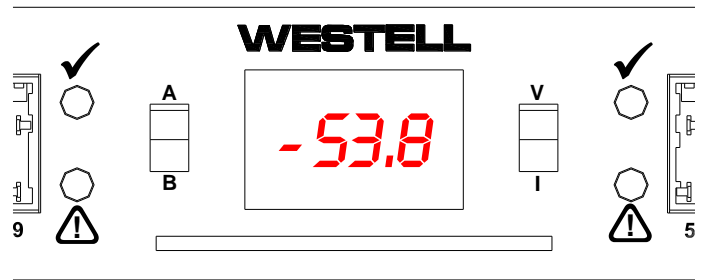

Figure 1.4.1
1.4. Alarm circuits are provided to alert service personnel of fault conditions. A fuse alarm is a blown fuse (GMT or TPA) within a given bus. A red fuse alarm LED  on the faceplate will illuminate when a fuse alarm condition is present. As well, the green Normal Operation LED  will extinguish to signal a fuse alarm or input power failure and the appropriate relay contacts will change states. These fuse panels have common (C), normally open (NO) and normally closed (NC) terminals for alarms. Note, the use of the alarm contacts is optional, if you do not wish to extend the alarms, you don't have to do anything with the alarm pins. The "Normal" condition of the relay exists when the panel is powered up without any blown fuses. The local alarm LEDs are located on the front of the panel as shown in Figure 1.4.1